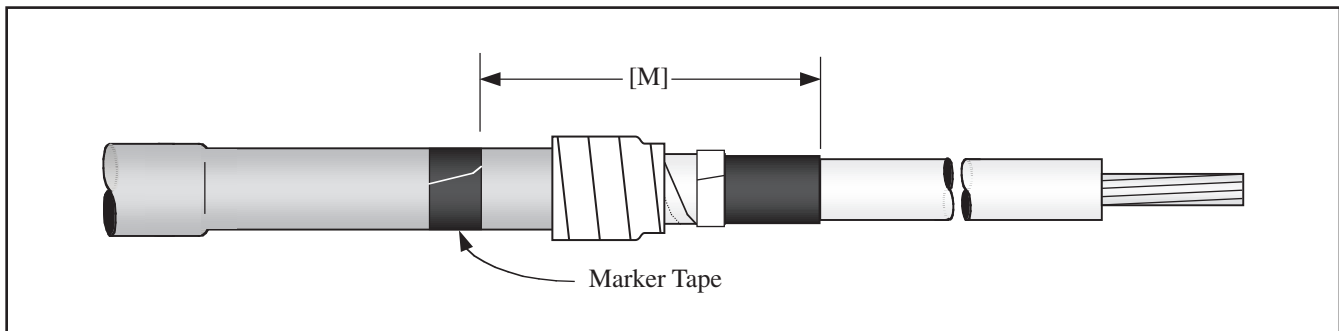

Figure 13
- 4.4 Place a termination installation marker tape at position [M] (*Figure 13*).